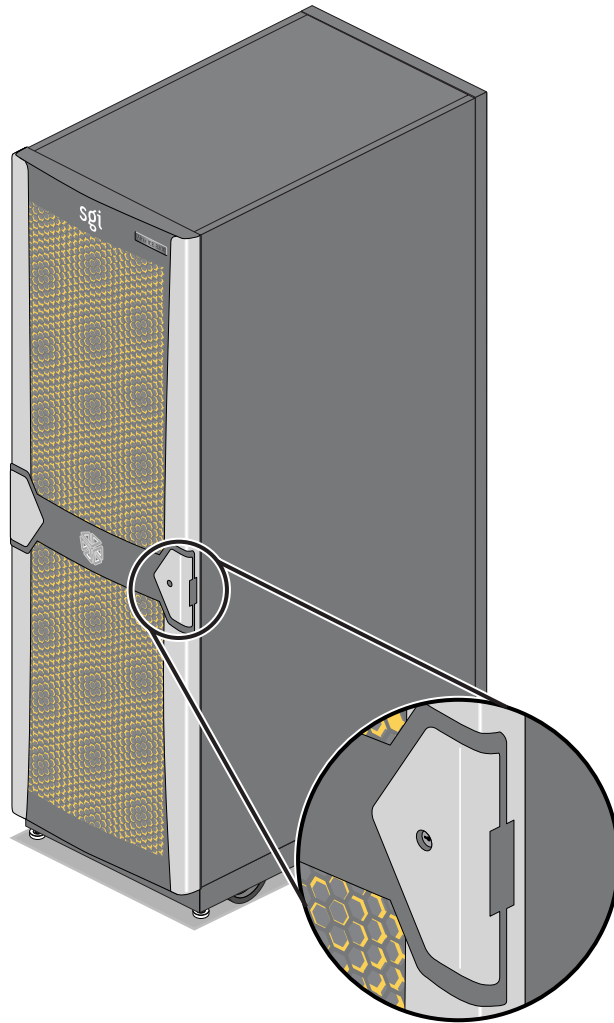

Figure 4-2 Front Lock on Tall (42U) Altix Rack
At the time this document was published only the tall (42U) Altix ICE rack (shown in Figure 4-2) was approved for use with the ICE systems.
- **Front and rear door.** The front door is opened by grasping the wide end of the triangle-shaped door piece and pulling outward. It uses a key lock for security purposes that should open all the front doors in a multi-rack system (see Figure 4-2 on page 44). Note that the front door and rear door locks are keyed differently. The optional water-chilled rear door does not use a lock.